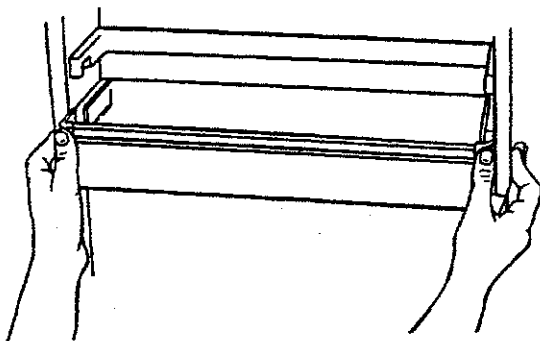

Figure 68
- To reinstall, use one hand at each side of bucket. Slide bucket into grooves on door. Push gently with thumbs until tabs snap and lock into place. See Figure 68.